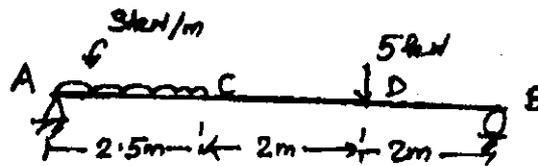

Fig. 5
13. (a) For the beam shown in Fig. 5 find the slope at 'C' and deflection at 'D' by MacCaulay's method. EI constant. (16)